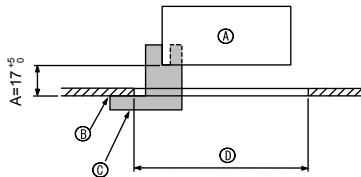
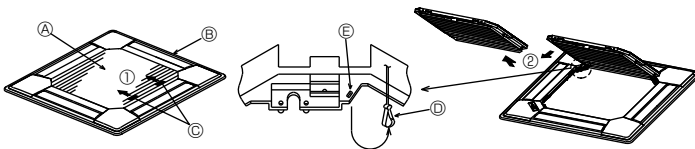
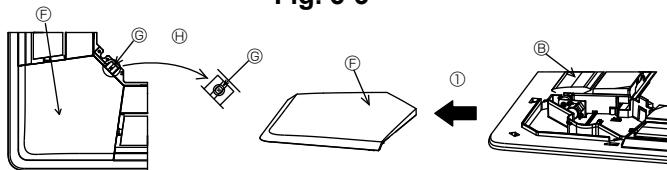

Fig. 5-2
Fig. 5-3
Fig. 5-4
①	Grille	1	950 × 950 (mm)
②	Screw with captive washer	4	M5 × 0.8 × 25
③	Gauge	1	(Divided into four parts)
④	Fastener	3
⑤	Screw	4	4 × 8
⑥	Screw	1	4 × 12
⑦	i-see sensor corner panel	1	for PLP-6BAE
5.2. Preparing to attach the grille (Fig. 5-2)
- With the gauge ③ supplied with this kit, adjust and check the positioning of the unit relative to the ceiling. If the unit is not properly positioned relative to the ceiling, it may allow air leaks or cause condensation to collect.
- Ⓒ Gauge ③ (inserted into the unit)
5.2.1. Removing the intake grille (Fig. 5-3)
- Slide the levers in the direction indicated by the arrow ① to open the intake grille.
- With the intake grille in the "open" position, remove the hinge of the intake grille from the grille as indicated by the arrow ②.
5.2.2. Removing the corner panel (Fig. 5-4)
- Remove the screw from the corner of the corner panel. Slide the corner panel as indicated by the arrow ① to remove the corner panel.
[Fig. 5-3, 5-4]